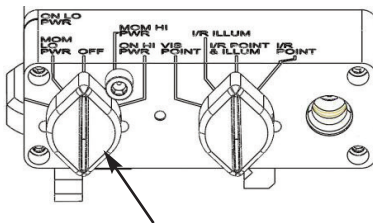
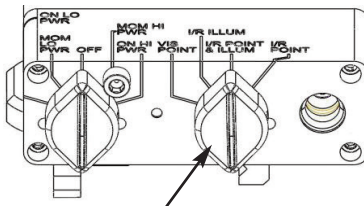

Figure 1. Activation Mode Selector Switch
Figure 2. Laser Mode Selector Switch
The Activation Mode Selector Switch (Figure 1) is located on the left rear of the AN/PEQ-15A Housing. It is used to select between the HI PWR and LO PWR modes of operation when the Remote Cable Switch or the Integrated Momentary Activation Switch is depressed. The Activation Mode Selector Switch can also be used to turn the AN/PEQ-15A ON continuously. Table 1 shows the five (5) positions for Activation Mode Selector Switch (Figure 1). Table 1. Activation Mode Selector Switch Functions.
The Laser Mode Selector Switch (Figure 2) is located to the right of the Activation Mode Selector Switch (Figure 1) on the back of the AN/PEQ-15A housing. This Laser Mode Selector Switch (Figure 2) is used to select between the laser functions. Table 2 shows the four (4) positions for the Laser Mode Selector Switch (Figure 2).